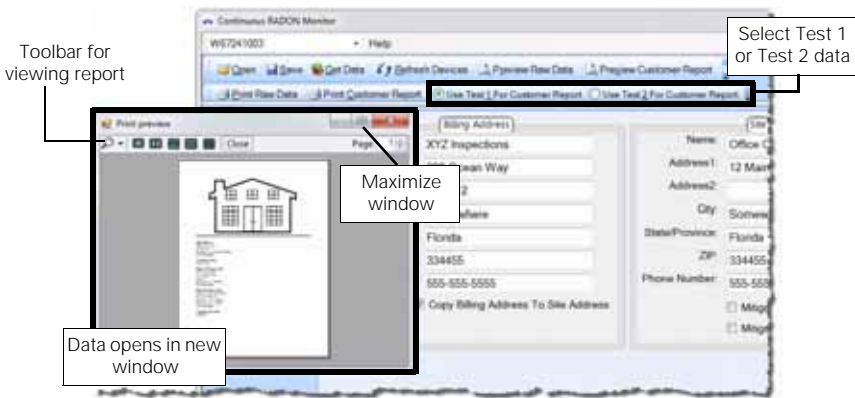

Figure 21. Preview Report
- 3 On the toolbar, click **Preview Customer Report**. The selected report opens in a new window (Figure 21). The viewer’s toolbar offers viewing options.